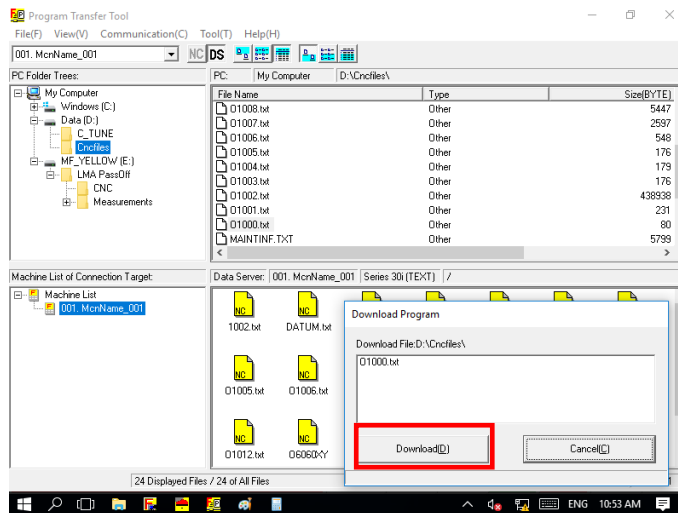

Figure 27 - Download Program dialog box
The “Download Program” dialog box opens. See (Figure 27 - Download Program dialog box).
8. Select a different Canned program to clear the current program and repeat the above steps to transfer the program. See (Figure 27 - Download Program dialog box).